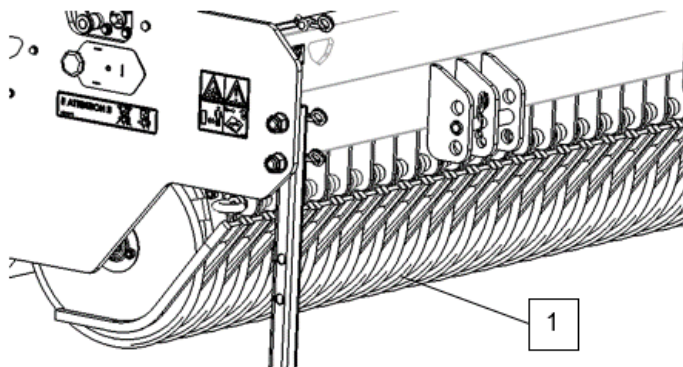

Fig.7-2
Check the sowing elements (1) for damage and repair if necessary. (Fig.7-2)